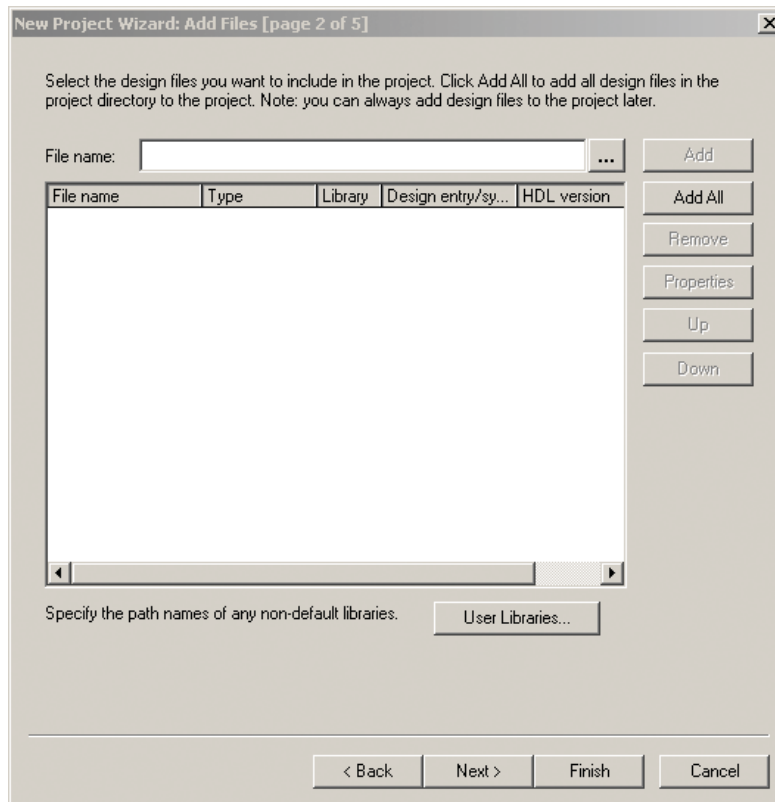

Figure 4–18 The New Project Wizard screen (2 of 5).
5. The third wizard screen is shown in Figure 4–19. This screen will allow us to specify the actual FPGA that we will target for our design. In the drop-down box for the **Family**, select Cyclone II. Place a check in the box for **Specific device**. Highlight the *EP2C35F672C6* and press **Next**.